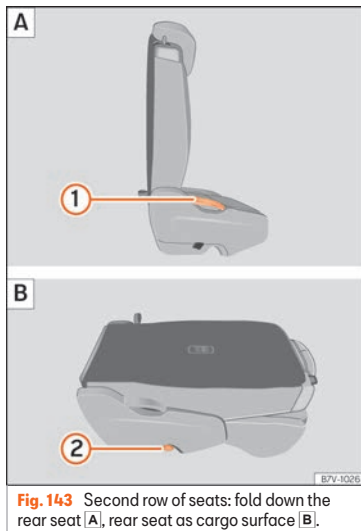
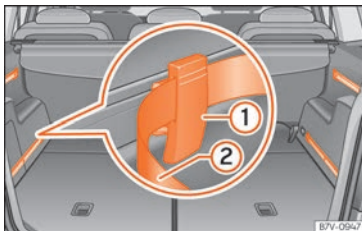

Fig. 143 Second row of seats: fold down the rear seat **A**, rear seat as cargo surface **B**.
Fig. 146 In the luggage compartment: system including rails, adjustable attachment elements ① and adjustable tightening straps ②.
- If required, remove the head restraints from the integrated seats for children and refit them »» Fig. 146.
- Remove objects from the footwell in front of and behind the rear seat »» ❶.
- Pull lever »» Fig. 143 ❶ back and fold the seat backrest forwards. The complete rear seat folds forward »» ❷.
- Fold the seat backrest forwards until it locks into the load surface position »» Fig. 143 ❷.
- Pull lever »» Fig. 143 ❶ upwards and place the seat backrests in vertical position. The entire seat folds backwards.
- Fit the attachment element with the ruts facing upwards » Fig. 146 ① to the upper part of the guide and press downwards.